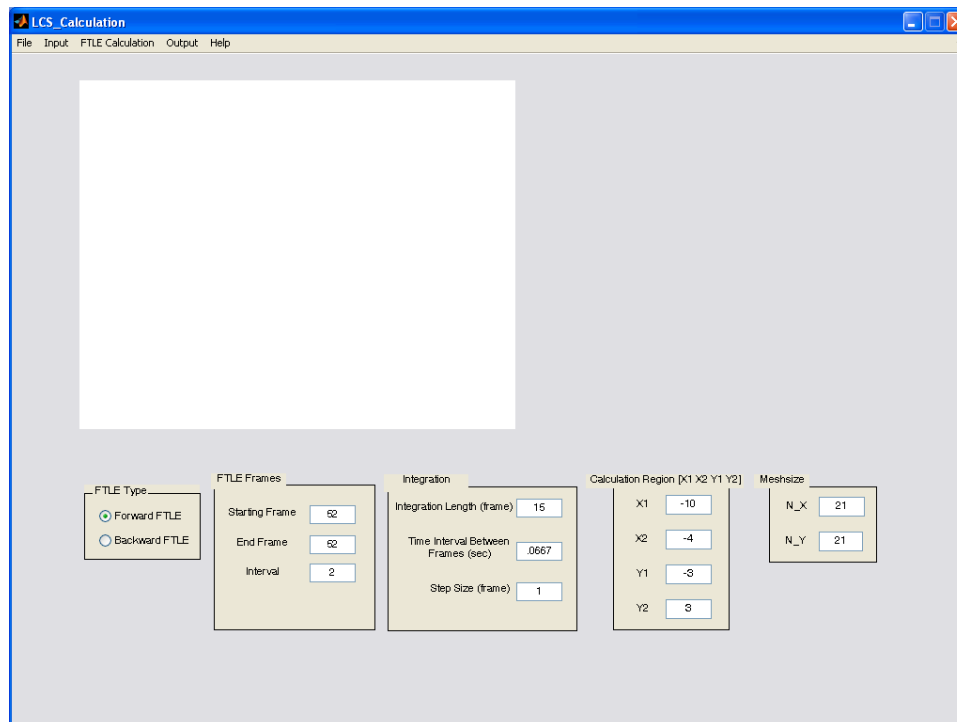

Figure 1.1
- 1.3 The Graphic User Interface (GUI) shows like Fig. 1.1.